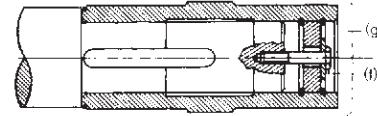

Fig. 5.16
- After mounting the reducer on the shaft, install bolt (f) and washer. See Fig. 5.16.